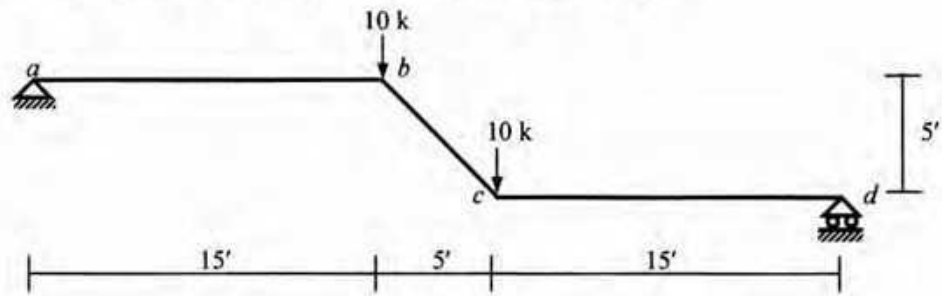

Fig. 5
5. Use the Method of Virtual Work (considering flexural and shear deformations only) to calculate the vertical deflection at joint  $c$  of the frame  $abcd$  loaded as shown in Fig. 5